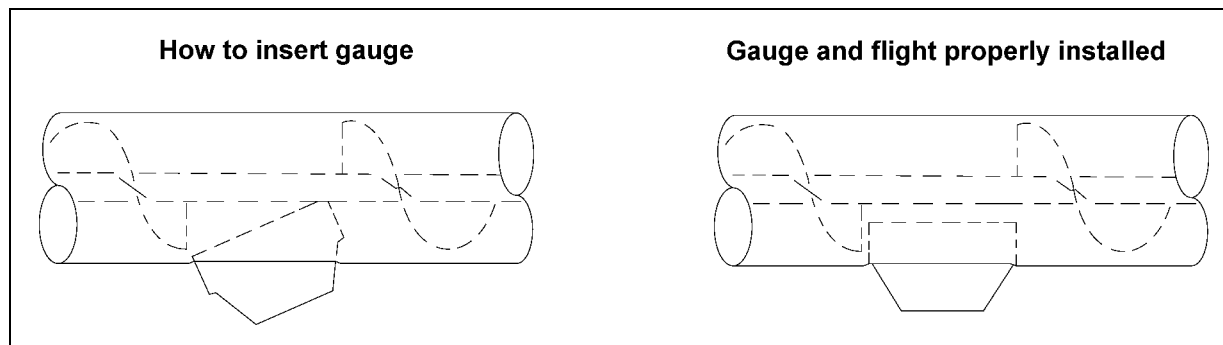

Figure 4J
6. Re-mount the pan and check all the clearances and alignments. Before installing the sensor, insert the clearance gauge into the cut out. (See Figure 4J on Page 16.)